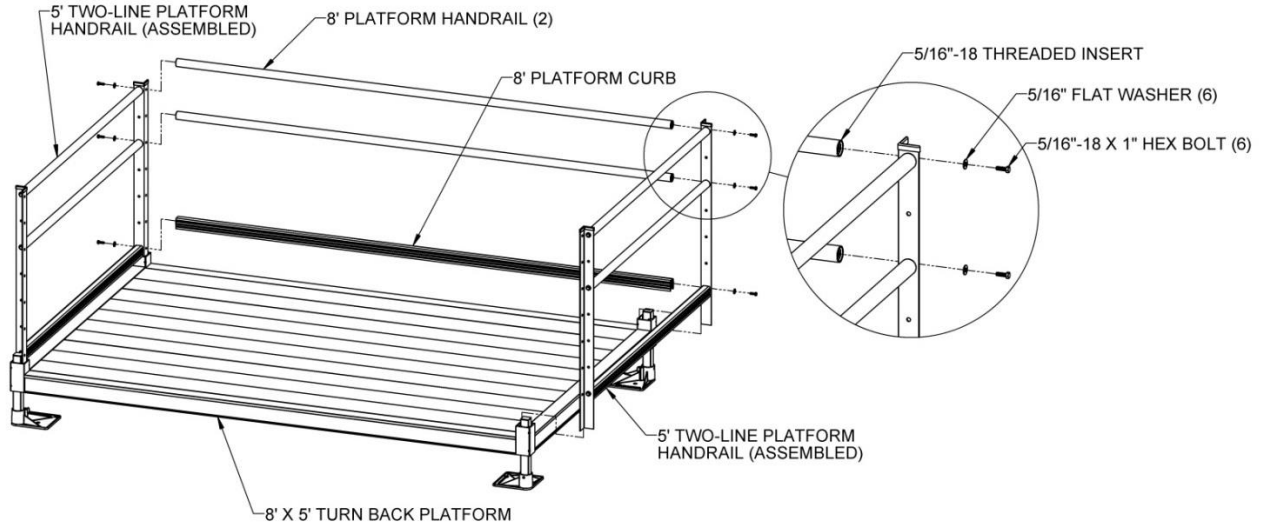
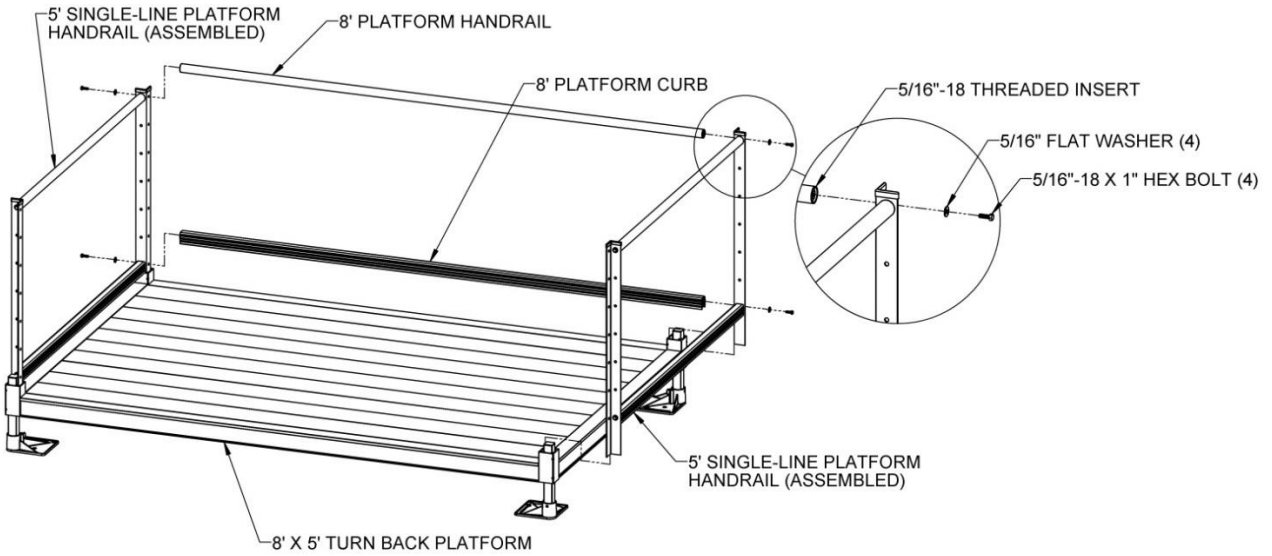
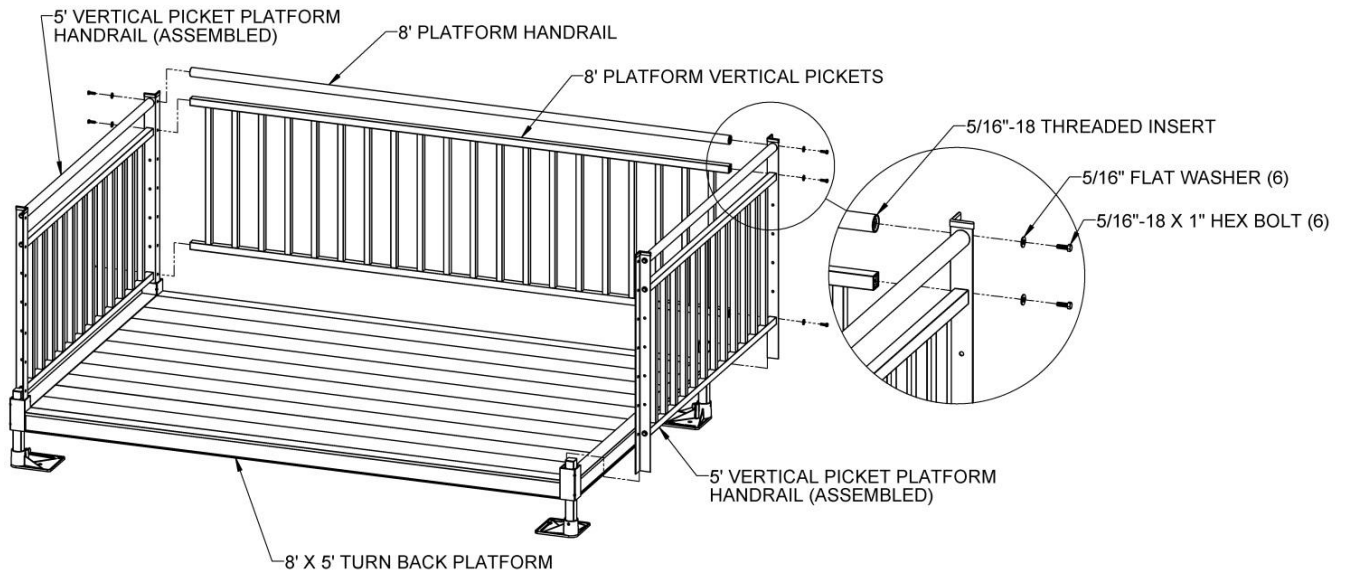

FIG. 4.11
FIG. 4.12
FIG. 4.13
- 4.7.3. Assemble the 8' platform handrails and curb between the two 5' platform handrails by threading 5/16"-18 x 1" long hex bolts through the holes in the 5' platform posts which align with the 5' handrails and curb and into the threaded inserts in the ends of the 8' handrails and curb. Tighten all fasteners securely (FIG. 4.11).
- 4.7.4. 8' platform Single-Line, Vertical Picket and Horizontal Picket handrails are assembled in a similar manner (FIG. 4.11, FIG. 4.12 & FIG. 4.13).